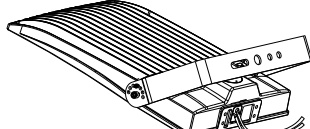

Figure 10
- Step 2: Install two small screws. (Figure 10)